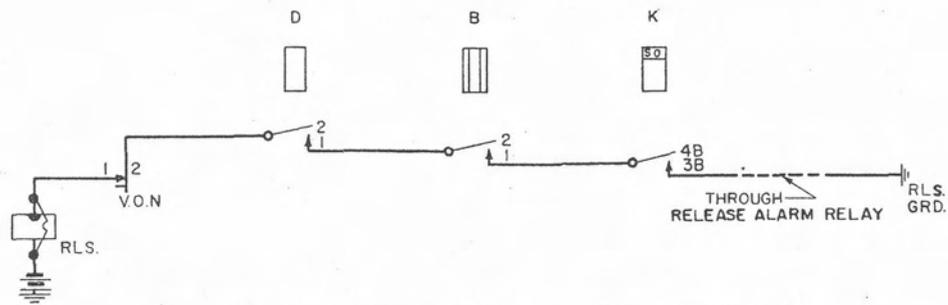

Figure 20. Release-magnet circuit open during conversation.
18.5 Mechanical restoration. Referring to figure 20, when the caller's phone "on hook" has released relay B, the called phone "on hook" has released relay D, both "on hook" have released relay K, and relay K has disconnected the wipers, the release magnet withdraws the "double dog", and latches it under the "release link"\*.
\*When the connector is preceded by absence-of-ground-searching selectors, after figure 20 release-magnet circuit is closed, it is not impossible that a new call might seize the connector, operate relay B, and open the release-magnet circuit before the shaft has restored to normal. With release link RL having latched double dog DD, the shaft will restore completely nevertheless. (Compare the footnote on page 7).
When a mechanical defect prevents a connector shaft from rotating or falling during release, the release magnet (figure 20) will remain operated and cause the green release-alarm lamp on the shelf fuse panel (figure 4) to light a few seconds later. This is accomplished by supplying ground